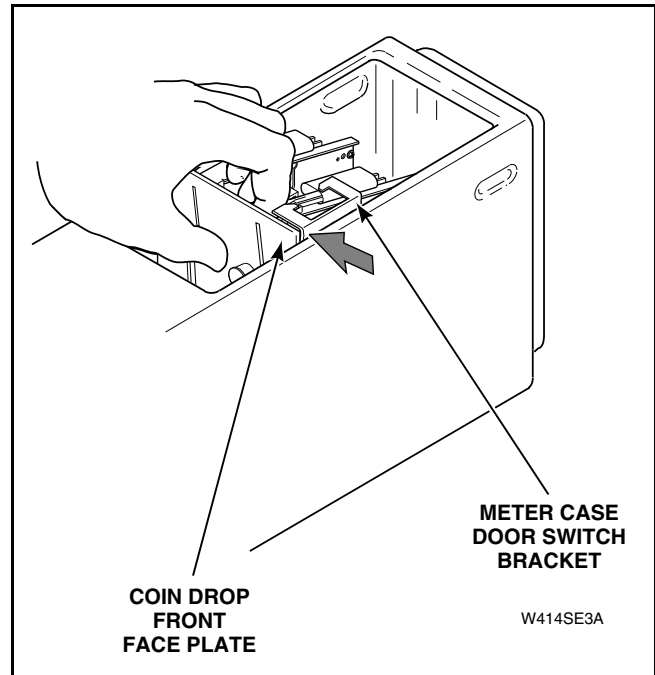

Figure 21
- (2) Carefully pull front of coin drop up and forward, so the drop's front face plate clears the meter case's door switch bracket. Refer to *Figure 21*.
- (4) Grasp top of coin drop front face plate between the two drops, as shown in *Figure 21*.